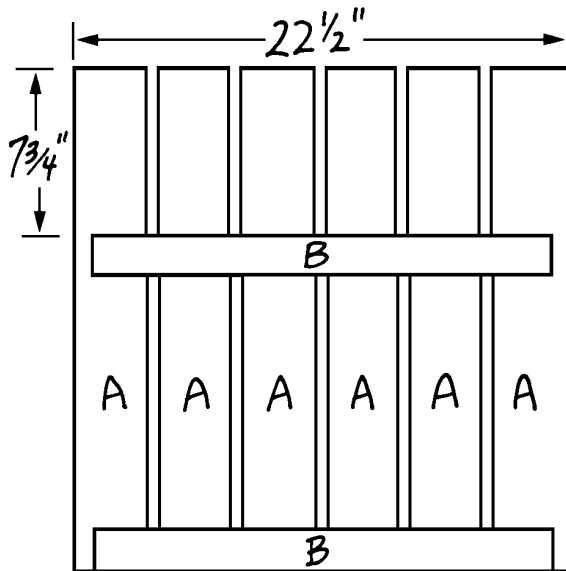

Figure 1
1. The six sides (one long, one medium, and four short) of each planter are different widths and contain different numbers of 1 x 4s. The long side has six 1 x 4s, the medium side has three, and the four short sides have two each. To start building the twelve sides for both planters, first cut thirty-four 23"-long sides (A) from 1 x 4 pine.
2. Cut four long supports (B) from 1 x 3 pine, each measuring 21" long.
3. Lay six of the side pieces (A) on a level surface, positioning them parallel to each other as shown in *Figure 1*. Adjust the spacing between the side pieces (A) so that the total width is exactly 22-1/2". Glue one long support (B) flush with the ends of all six side pieces (A). Note that there is a 3/4" inset at each end of this long support (B). Secure the long support (B) to the side pieces (A) by inserting two 1-1/4" screws through the long support (B) and into each side piece (A).
4. Attach the remaining long support (B), 7-3/4" from the other ends of the six side pieces (A), as shown in *Figure 1* and described in Step 3.